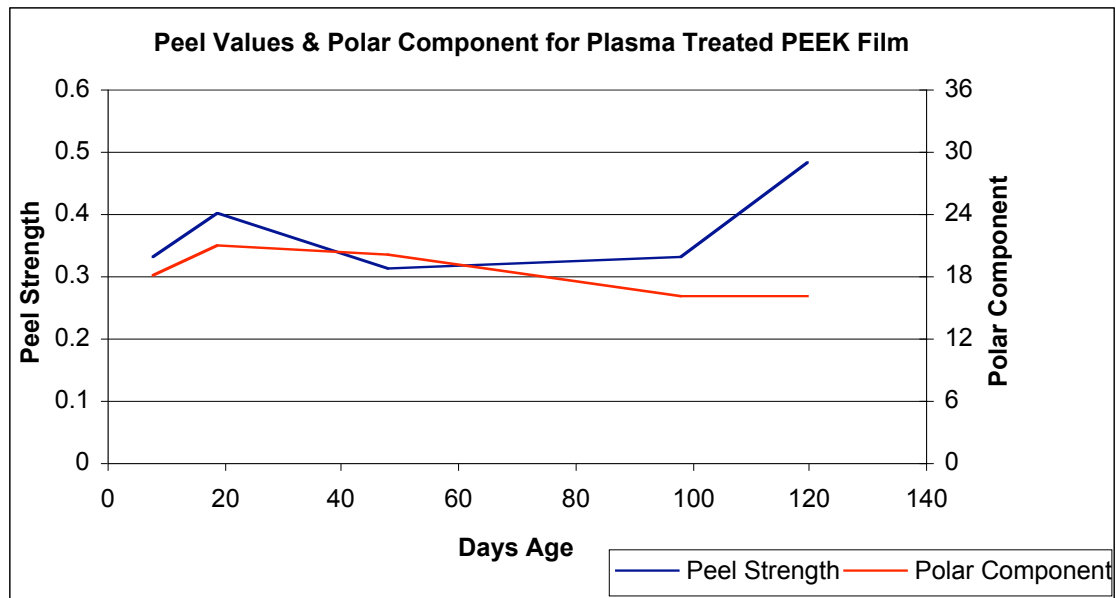

Figure 2 – Peel Strength (N m⁻¹) & Polar Component (mJ m⁻²) ageing over 120 day time period
- Longer lasting treatment (see Figure 2 below). A plasma treated film was tested by Victrex over 120 days. Peel Strength (Adhesion of film to aluminium plate using epoxy adhesive) and Polar Component of film surface (Contact angle determination)